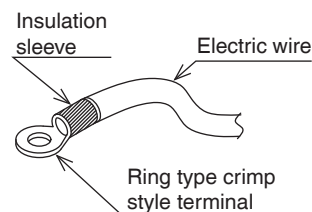

Fig. 6
- Be sure to use ring type crimp style terminals with insulation sleeves to connect wires to the power supply terminal block. (**Refer to Fig. 6.**)